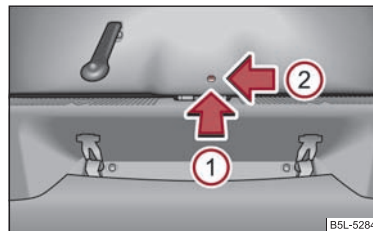

Fig. 29 Emergency unlocking of the boot lid
- Insert a screwdriver or similar tool into the opening in the trim in the direction of arrow ① ⇒ fig. 29 to the stop.
- Unlock the lid in direction of arrow ②.